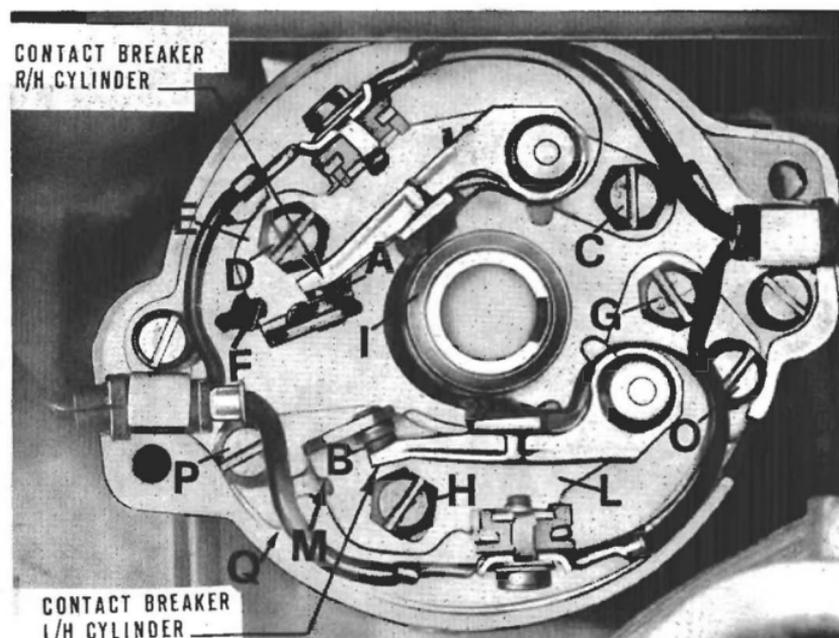
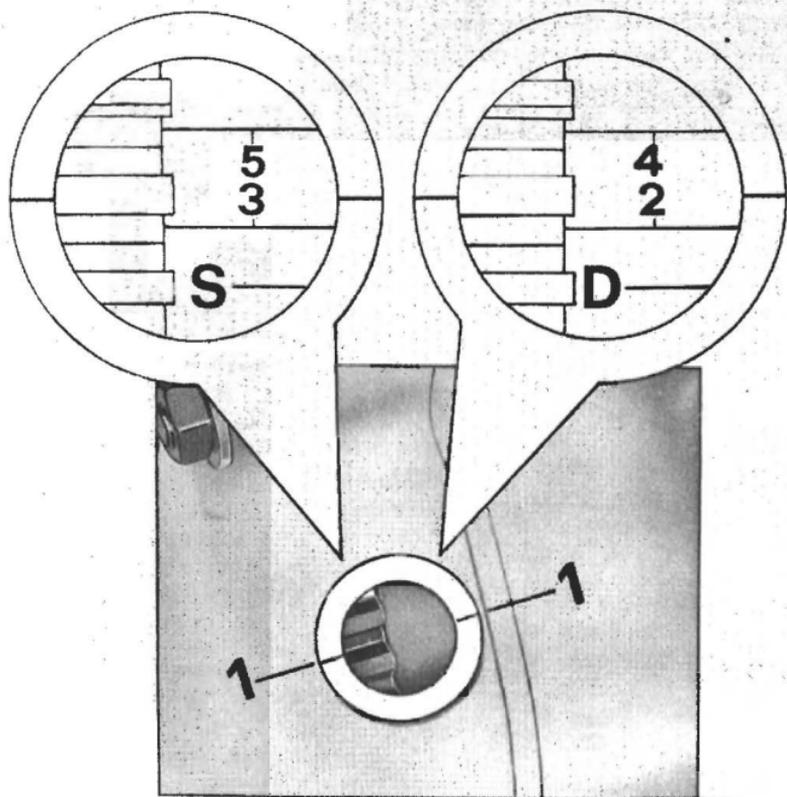

Fig. 19
Fig. 20
(Fig. 19)**
Checking and adjustment of ignition timing (fixed advance fig. 19 and 20)
- To find the exact moment when the points of breakers A and B (fig. 19) start separating it is best to use a suitable timing light device mounted in between the clamp terminal and the ground of the breaker which is being tested.
Timing the R/H cylinder (See fig. 20)
- Rotate now the flywheel clockwise to a point about 15 mm (.59") in a forward position to flywheel mark 2 (fig. 20) and then rotate back the flywheel very slowly to bring mark 2 in coincidence with mark 1 on the check hole rim.
Purpose of this operation is to recover any backlash of the gears. In this position, fixed advance mark 2 is 13° from TDC (D) and so at the commencement of the points separation (« A » in fig. 19).
Timing of the L/H cylinder (See fig. 20)
- Rotate now the flywheel clockwise to a point 15 mm (.59") in forward position to the flywheel fixed advance mark (3) in fig. 20 and slowly rotate the flywheel backwards on to the position where fixed advance mark 3 is in coincidence with mark 1 on the check hole rim.
Scope of this operation is to recover and backlash of the gears. In this position, fixed advance mark 3 is 13° from TDC (mark « S ») and so at the point where the contact points start separating. (« B » in fig. 19).
N.B. - If the points (« A » and « B » in fig. 19) do not start opening in the above positions, the ignition timing needs adjustment.
- Loosen contact breaker screws which secure it to the crankcase and move the breaker to the right or left to find the position where the points start opening when mark 2 in fig. 20 (fixed advance mark) on the flywheel coincides with mark 1 on the rim of the check hole, proceeding as described in « Checking and adjustment of « ignition timing ».
- Proceeding as described in « Checking and adjusting ignition timing for the left hand cylinder (contact breaker « B » fig. 19) set flywheel mark 3 in fig. 20 in coincidence with mark 1.
- Loosen arrow « O » and « P » (Fig. 19) which secure the contact breaker plate « B » and by acting on notch « Q » move the plate to the position where the points of breaker « B » start opening.
(See fig. 20 and diagram 21)
Marks « D » and « S » are impressed on the flywheel on which are also traced the marks shown in fig. 20 (3-4-5-6).